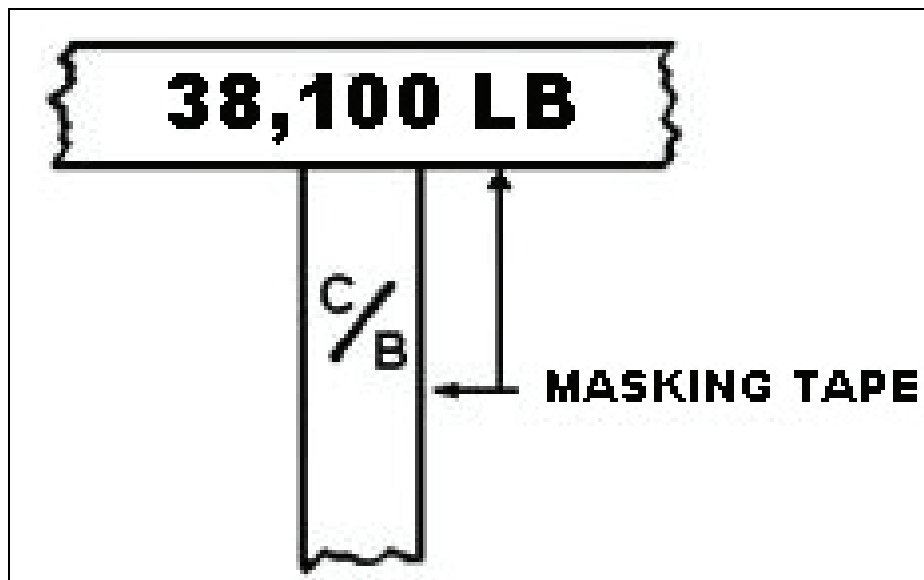

Figure 3-10. Marking Center of Balance
- b. Mark center of balance by forming a T-shape with masking tape or by making "T" with chalk; the vertical portion of the "T" represents the center of balance mark (see Figure 3-10).